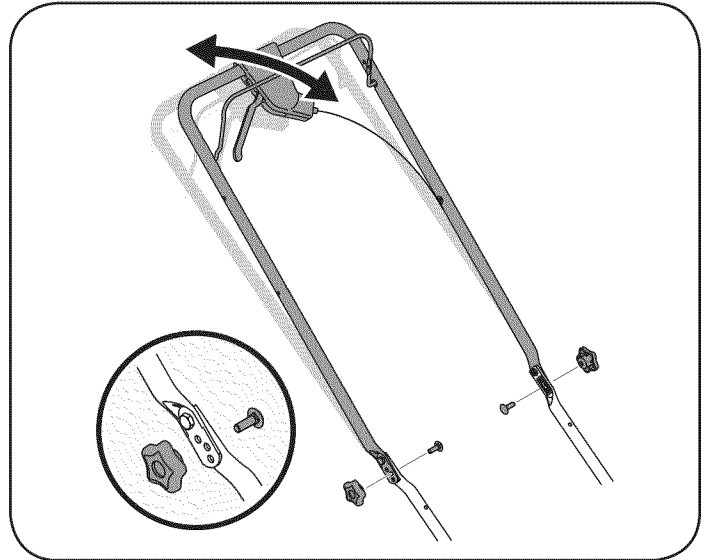

Figure 10
1. Remove wing nuts and carriage bolts from handle. See Figure 10.
2. Position the handle in one of the three positions that is most comfortable. See Figure 10 inset.